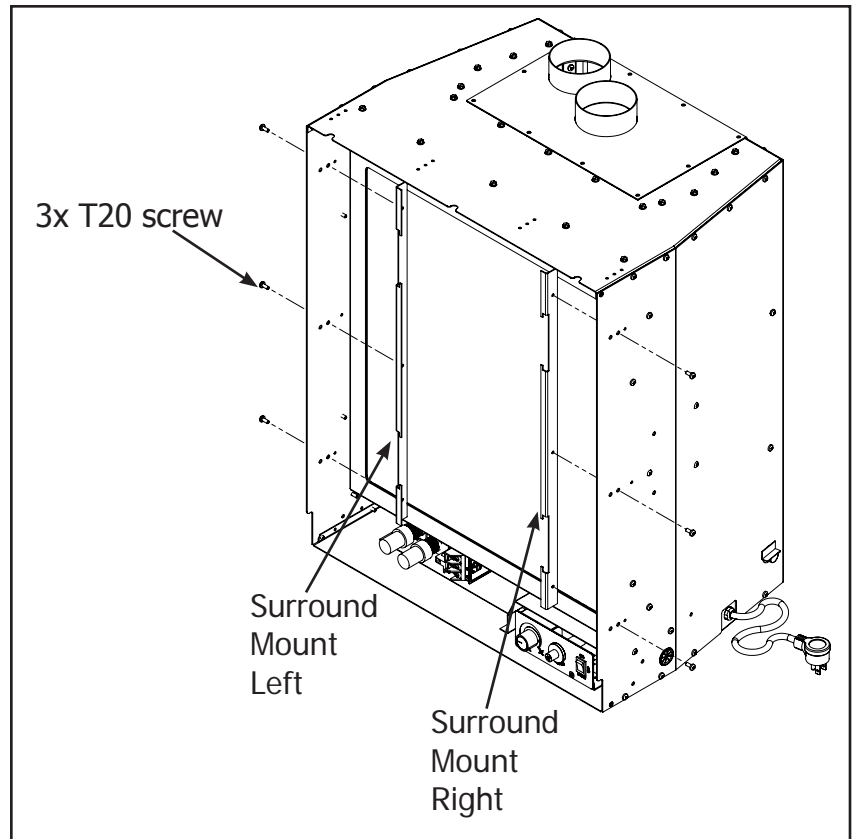

Figure 3: Surround Mount Removal
**Step 3:** Remove the Left and Right Surround Mounts by removing the three (3) T20 screws on each part (shown in Figure 3).